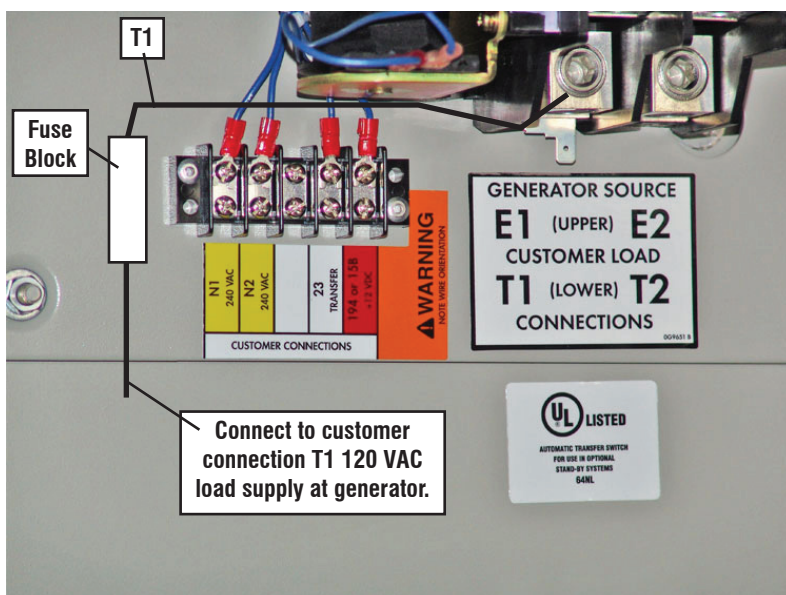

Figure 1
4. Connect the wire labeled T1 between the fuse block and the T1 lug shown in (Figure 1).